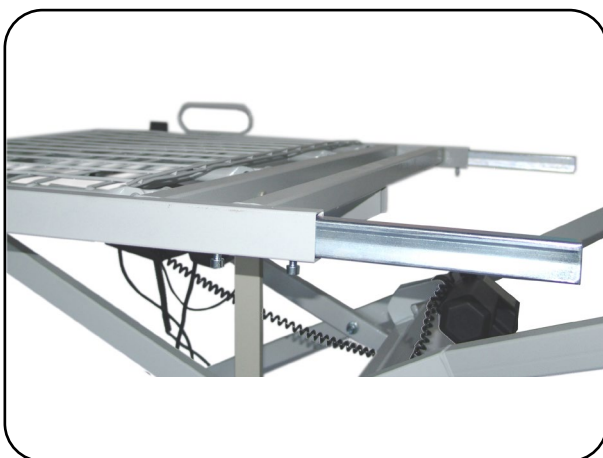

Fig. 6.1.05 – Extension tubes in the longitudinal tubes of the head support
9. Insert the extension tubes into the longitudinal tubes of the head support Only fix the extension tubes loosely with two M8 x 45 cylinder head bolts each (*for the 120 cm bed surface width and more version: M8 x 20 and M8 x 50*) in each case so that they can be moved for assembly (Fig. 6.1.05).